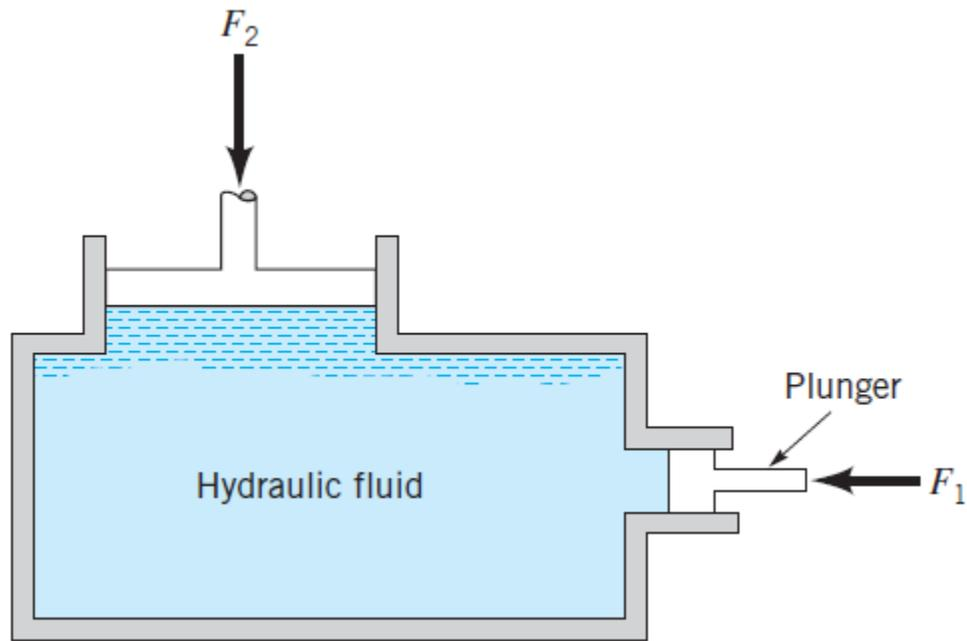

Fig. 1
1. The basic elements of a hydraulic press are shown in Fig. 1. The plunger has an area of 1 in^2 , and a force F_1 , can be applied to the plunger through a lever mechanism having a mechanical advantage of 8 to 1. If the large piston has an area of 150 in^2 , what load F_2 , can be raised by a force of 30 lb applied to the lever? Neglect the hydrostatic pressure variation.